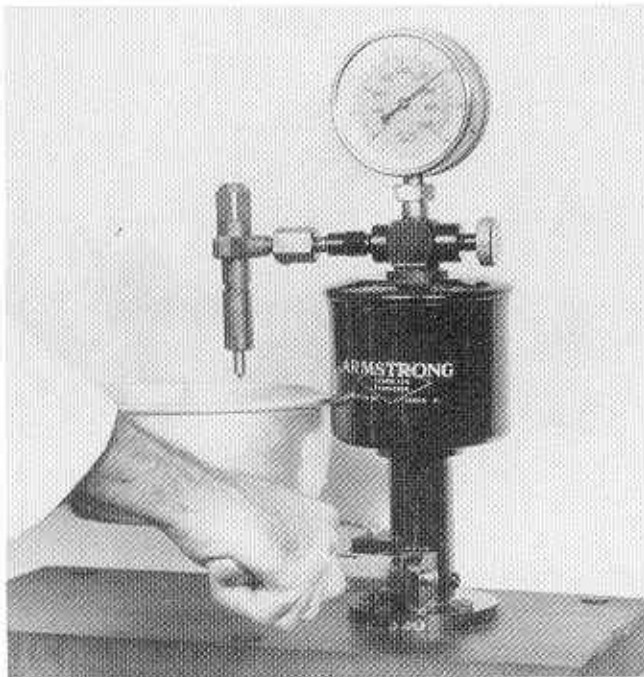

Figure 3.9 Testing the Fuel Injector using a Test Rig
3.27 Using the test rig (Figure 3.9) test and set up the fuel injector as follows: